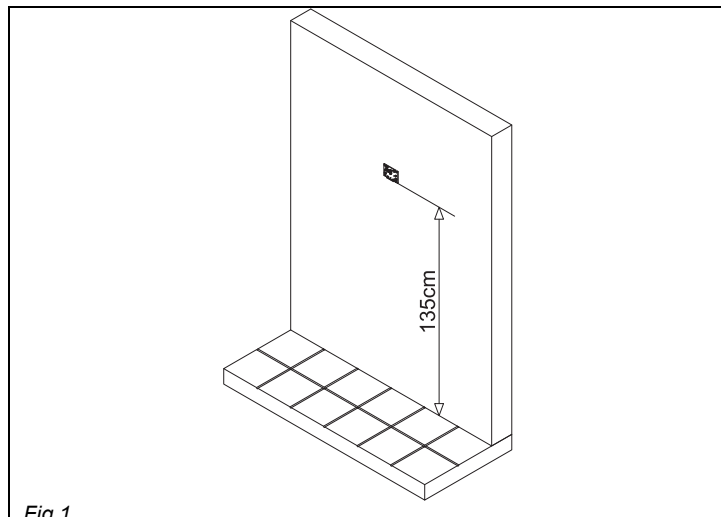

Fig. 1
- Cables must be fed through the opening "e" (Fig. 2A) of the mounting plate "c", which should be fitted approximately 135cm from finished floor level as shown in Fig 1;